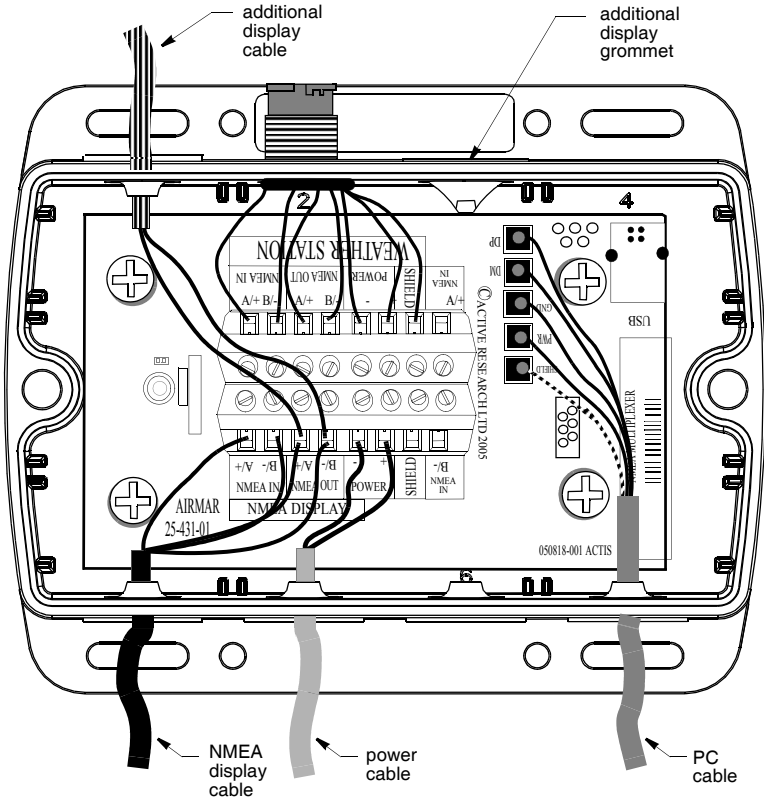

Figure 13. Wiring additional display devices to a Combiner
Use the AUX NMEA OUT grommets to connect one or two additional devices to receive and display data from the WeatherStation instrument. To wire a device(s) through the AUX NMEA OUT grommet(s), use the NMEA OUT terminals on the printed circuit board (see Figure 13).
5. Push approximately 100mm (4") of the cable through the grommet(s) (see Figure 13).
1. Route the power cable from the Combiner to the power supply (see Figure 13).